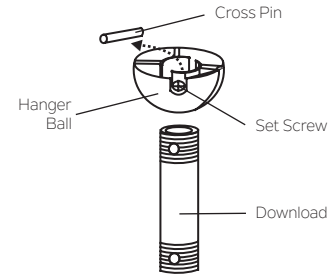

Fig. 7
**Step 5.** Remove the hanger ball from the downrod assembly by loosening the set screw, unscrewing and removing the cross pin and unscrewing the ball off the rod. (Fig. 7)